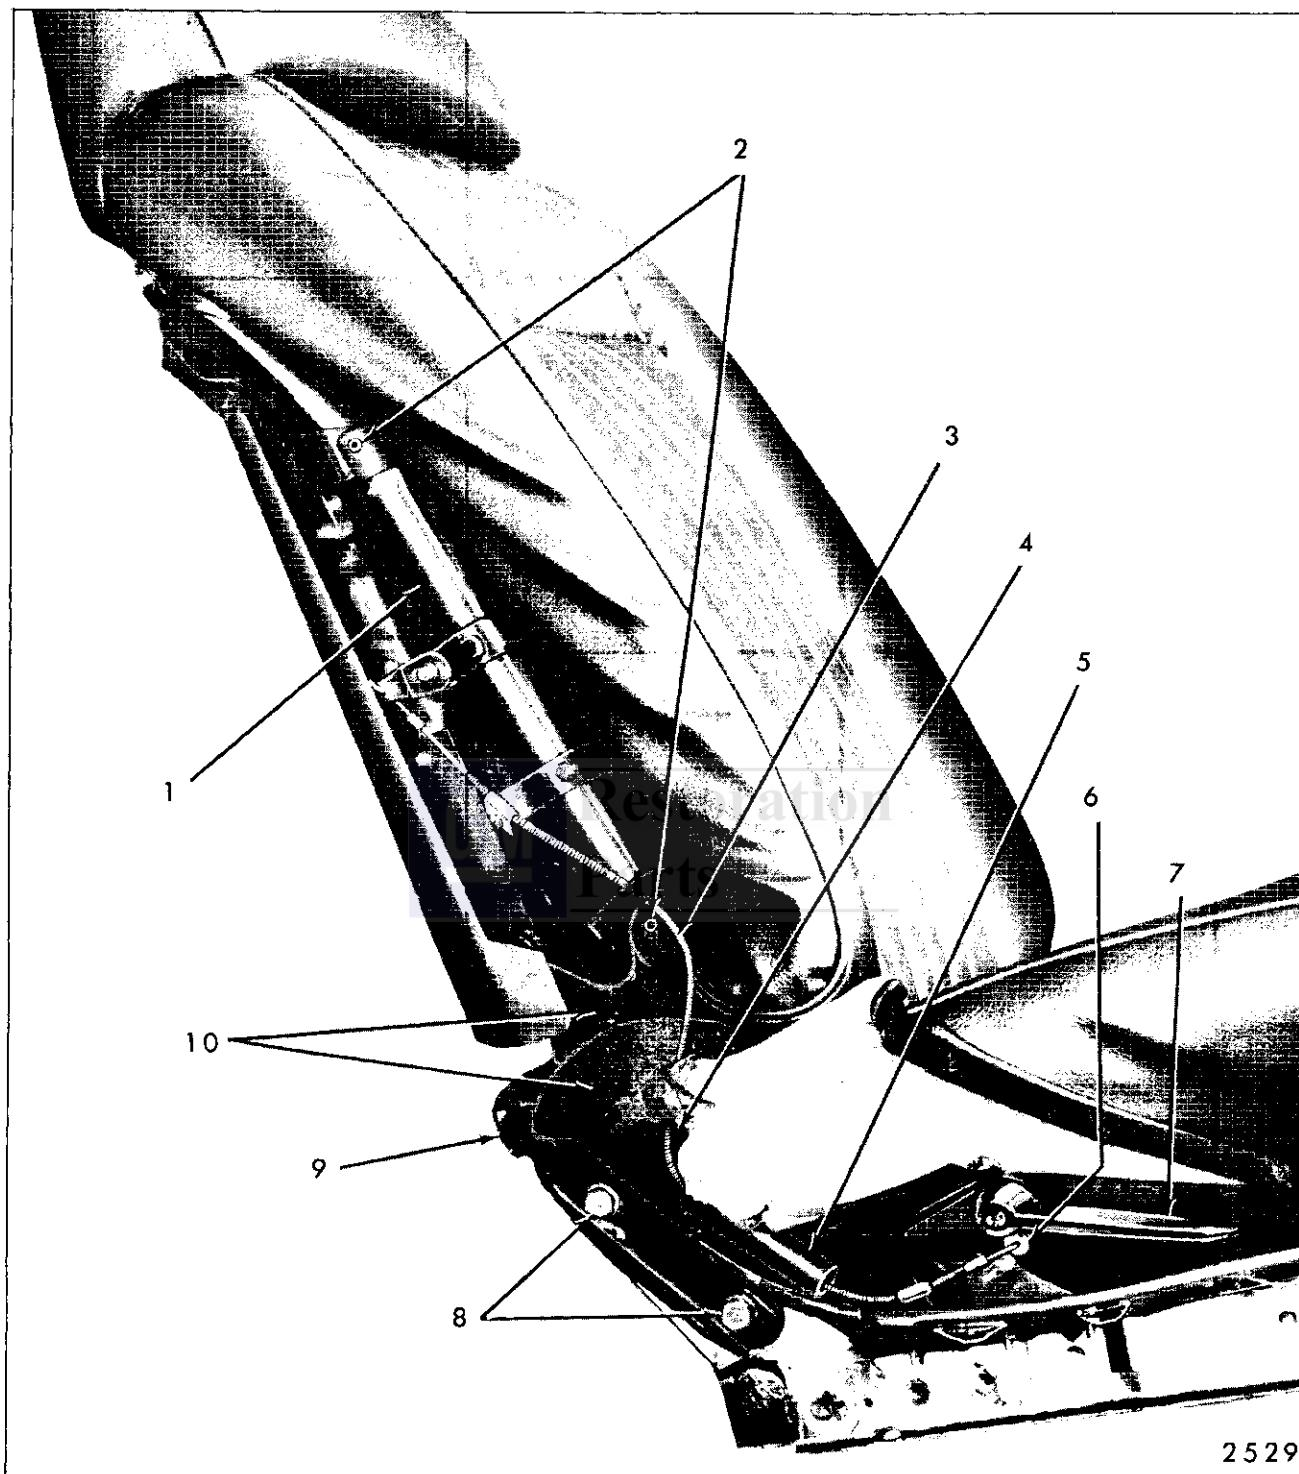

Fig. 15-41—Reclining Seat Back and Positioning Unit
2. On right side of seat with seat side panel removed, remove hog rings securing cushion trim at rear of seat and along bottom of seat and turn back trim sufficiently to expose seat back attaching bolts and reclining control cable attachment at handle control lever (Fig. 15-41).
3. Detach reclining positioning unit control cable from handle control lever; then, pull control cable through cable guide and through grommet in cushion trim (Fig. 15-41).
5. To install seat back assembly, reverse removal procedure. Make certain side panel support (Fig. 15-41) is secured under seat back outer attaching bolts.
2. On right side of seat with seat cushion side panel removed, remove hog rings securing cushion trim at rear of seat and along bottom of seat and turn back trim sufficiently to expose reclining control cable attachment at handle control lever (Fig. 15-41).
4. Remove hog rings securing right side of seat back trim to seat back frame and turn trim forward sufficiently to expose positioning unit (Fig. 15-41).
5. Detach reclining positioning unit control cable from handle control lever; then, pull control cable through cable guide and through grommet in cushion trim (Fig. 15-41).
6. Using a suitable size drift punch carefully drive out roll pins securing positioning unit to support on seat back frame and to seat back hinge (Fig. 15-41); then remove positioning unit from seat back.